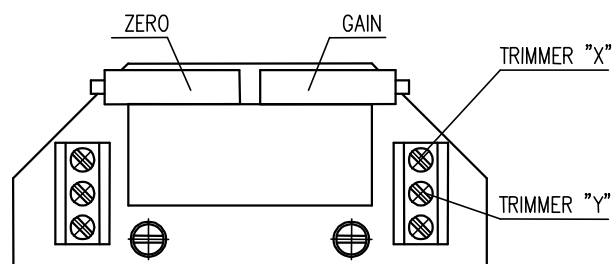

Fig. 6
4.4.2 EPV – 3-wire version (Fig. 6, 6a)
- Adjust the resistive transmitter according to the previous chapter. The resistance is to be metered on the terminals **X-Y**, resp. **0%-100%** (Fig. 6, 6a). The used transmitter resistance is **2000 W** or **100 W**.